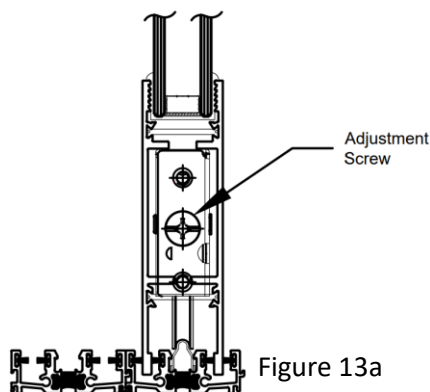
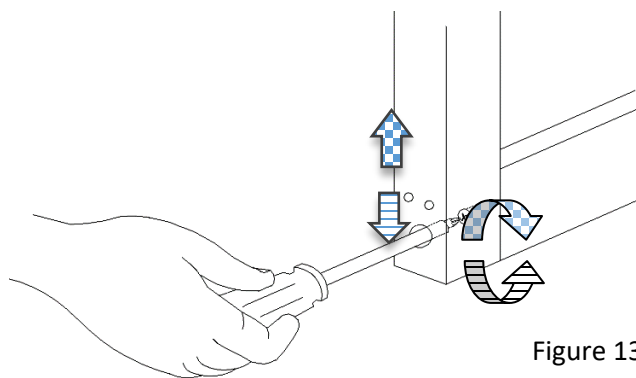

Figure 13a
Figure 13b
18. Temporarily adjust the panel upward by lifting the panel and turning the adjustment screw shown in figure 13a clockwise as shown in figure 13b until the rollers regain contact with the track. It is important to physically lift the panel while adjusting upward so that the adjustment screw does not strip due to the weight of the panel. Adjust the rollers of the active panels by turning the adjustment screw shown in figure 13a to achieve proper alignment of the door panels (it is easier to adjust down than up). Turn screw clockwise to raise the panel and counterclockwise to lower the panel as shown in figure 13b.